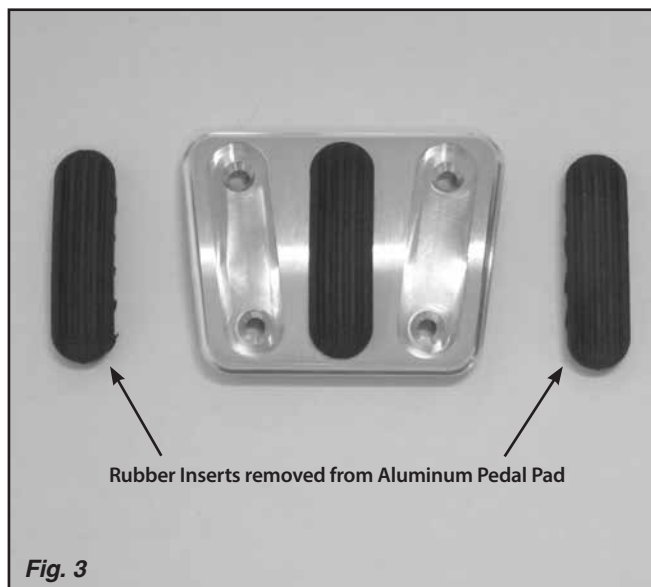

Fig. 3
Step 2: Remove the two outer rubber inserts from the aluminum pedal pad by pushing through the holes on the back side with a blunt object. **Fig. 3** The other rubber insert(s) are glued in. Do not use any sharp objects on the front of the aluminum pedal pad as this may scratch or damage the aluminum.